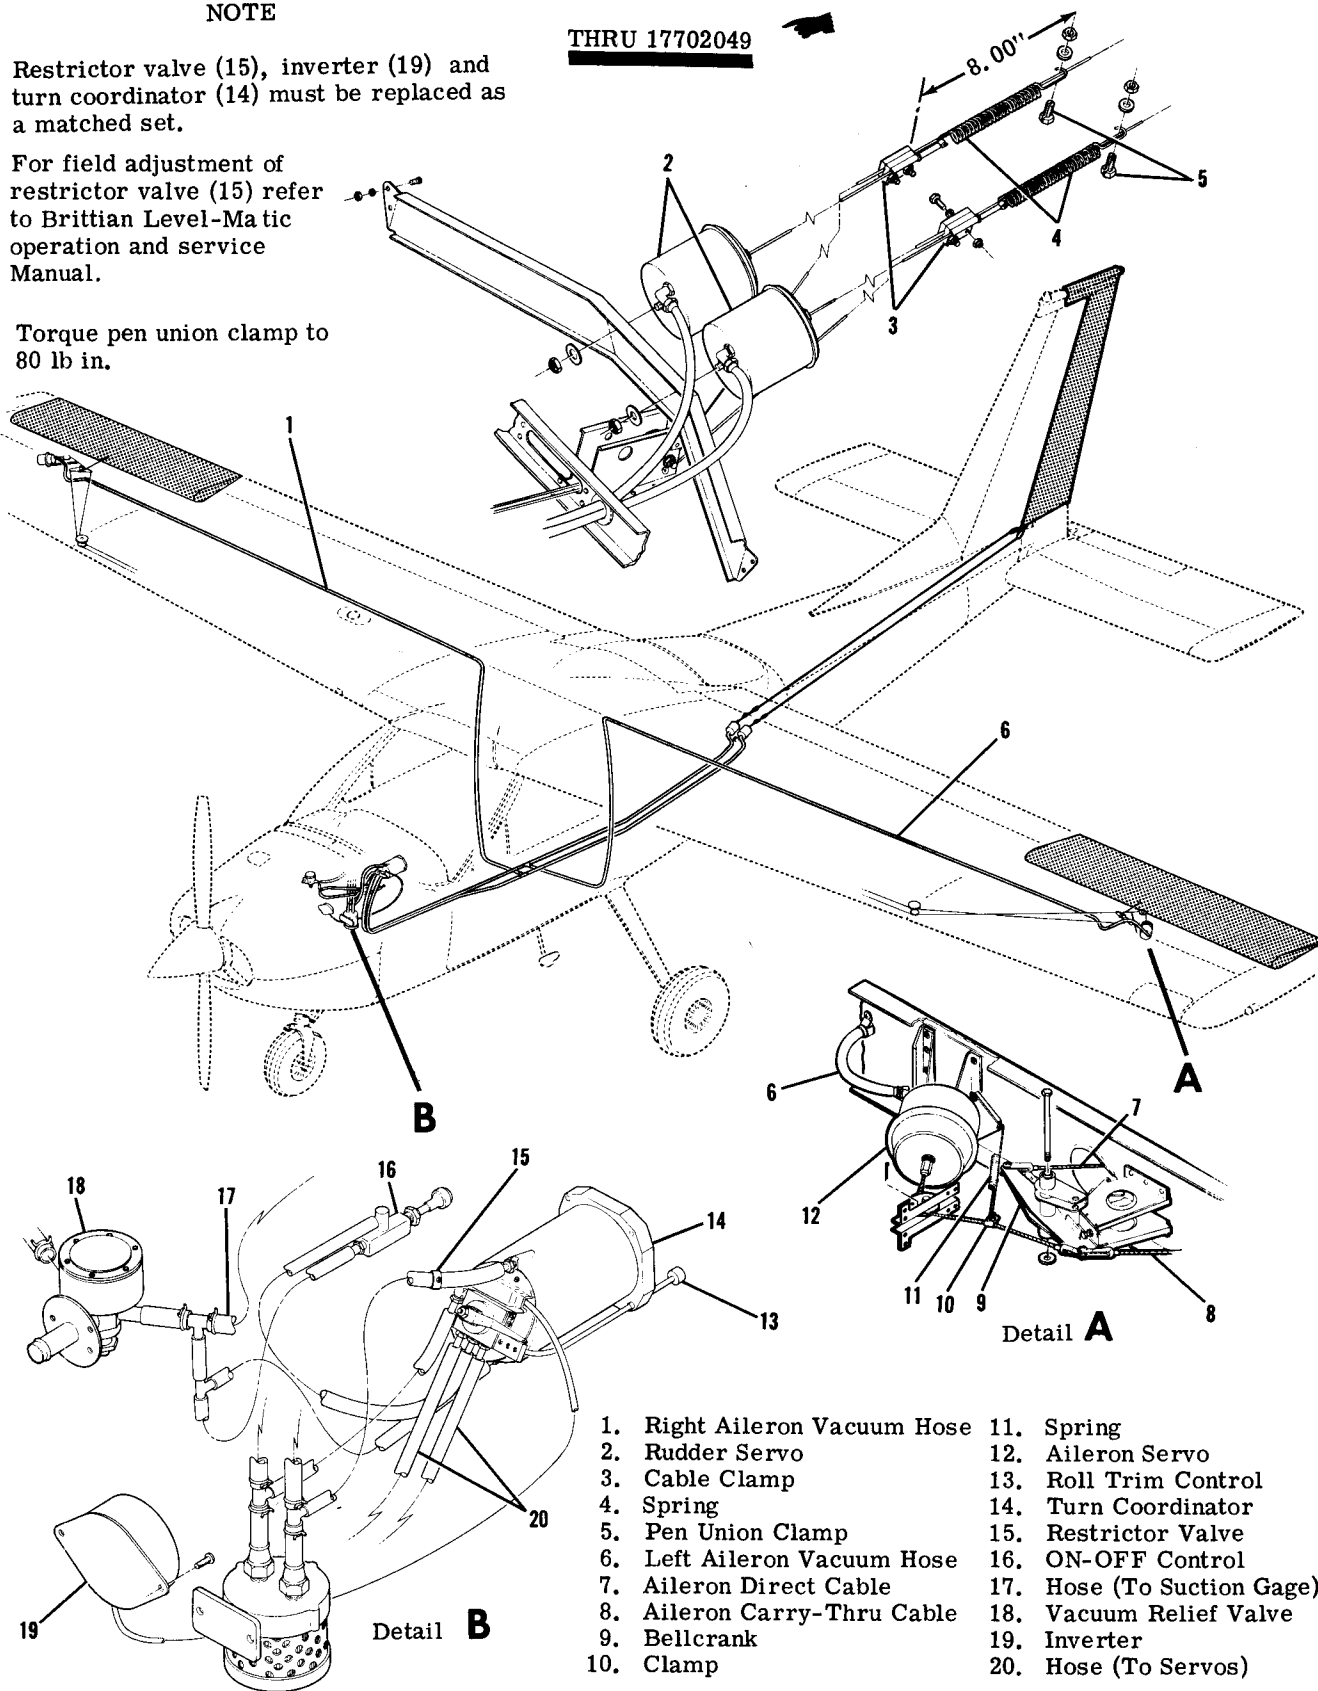

Figure 15-8. Wing Leveler Control System
(Refer to figure 15-8.)
15-72. RIGGING. (Refer to figure 15-8.)
a. Rudder controls and rudder must be in neutral position before clamps (3) are secured to cables.
b. While maintaining servos (2) in their neutral position, remove slack from servo cables by moving clamps (3) aft on rudder cables until servo cables become taut, then secure clamps (3) to cables.
c. Connect springs (4) to cable ends, then pull cables through clamps (3) until servos are fully extended but not stretched.
d. Position pen union clamps (5) on rudder cables 8.00 inches aft of clamp (3) and secure. Torque clamps to 80 pound-inches.
e. Aileron servos require no rigging if components are installed as illustrated in figure 15-8.